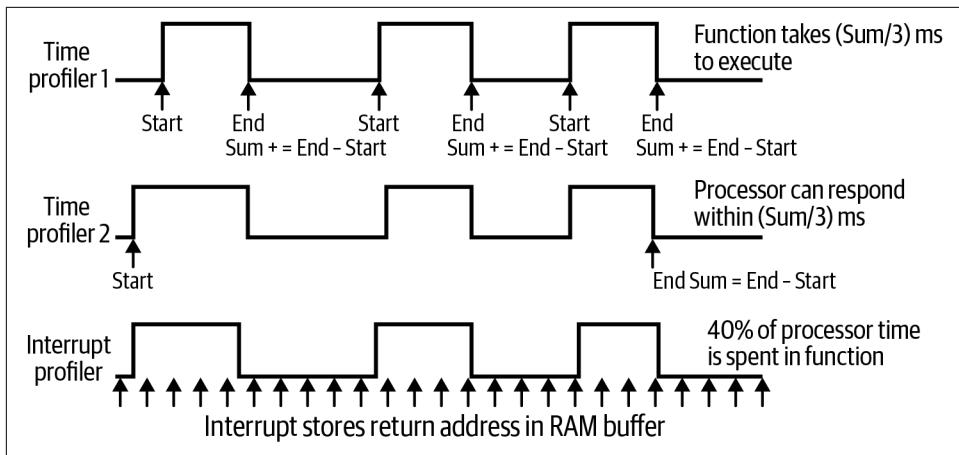

Figure 11-5. Comparing timer and interrupt profilers
**Figure 11-5** shows how this function timer profiler measures one area of interest at a time.
If you want to profile a function that is much shorter than your timer tick, you can use a shorter timer tick in your profiler or change the way you sample. The following example, for instance, profiles the whole main loop because the profiler timer doesn't stop until the counter has reached its goal, as shown in the middle of Figure 11-5. This may yield valuable information if you are trying to react to an event within a certain amount of time:
As shown in Figure 11-5, this profiler gives you a longer view of the system timing. Both of the timer profiling methods break up the flow of code. They tend to be temporary pieces of code that you remove after gathering the information you want. Instrumenting the code in this fashion is straightforward, so reproducing the code as needed is usually better than leaving it in to slow down the code and/or confuse future generations.
First, create a timer interrupt that is asynchronous to everything else in the system. For example, if you have 10 Hz and 15 Hz interrupts, make sure your new timer is not 1, 2, 3, or 5 Hz. Instead, make it something like 1.7 Hz so it is not evenly divisible into any of your other time-based interrupts. This ensures that your results are not biased by periodic functions. Figure 11-5 illustrates the relative timing of two functions and your custom timer (the little arrows at the bottom).